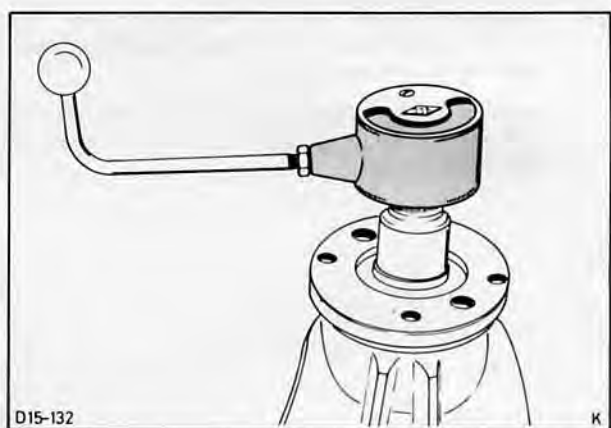

Fig. 121. Check running torque of drive pinion with pre-load gauge 15-041
33. Insert drive pinion with new clamping sleeve in housing. Hold flange with Special Tool No. 15-030 and tighten nut, taking repeated torque readings, until value found previously (+0,3 Nm (3 cmkp) for friction of new oil seal) is attained. Use pre-load gauge, Fig. 121.